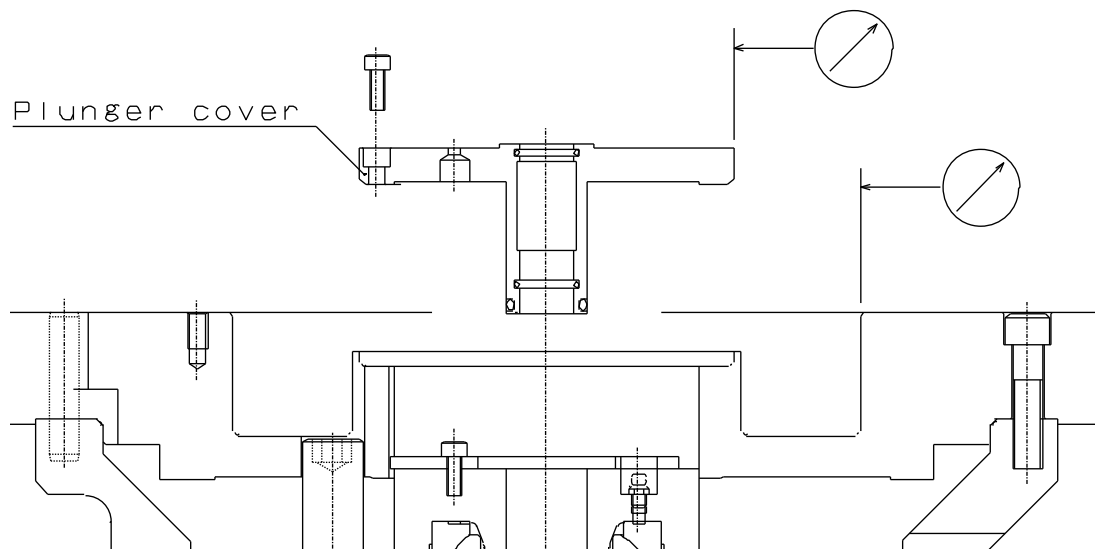

Fig.10
4. Install the body [A] with the socket head cap screws [03]. Adjust so that the runout of diameter is less than 0.02 mm T.I.R. as shown in Fig.10.